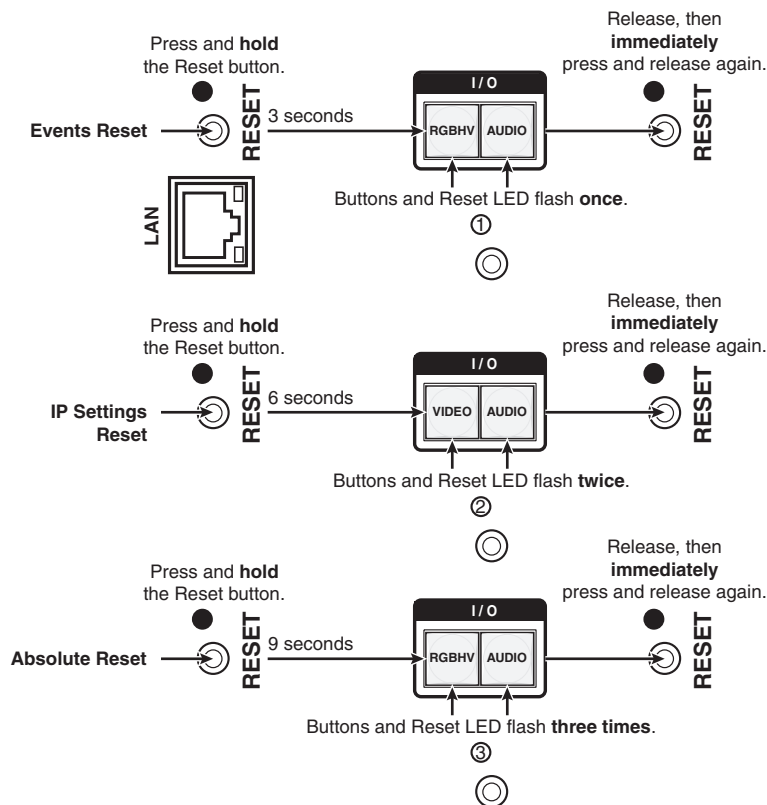

Figure 3-71 — Whole switcher and absolute resets
1. Use an Extron Tweezer or other small screwdriver to press and **hold** the rear panel Reset button until the front panel RGBHV and Audio buttons blink once (events reset), twice (system reset), or three times (absolute reset) (figure 3-71).